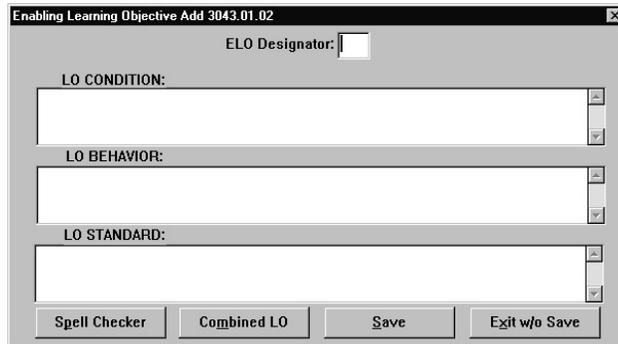

Figure 6-44. Enabling Learning Objective Add
2. Click on **Add ELO**. The Enabling Learning Objective Add dialog box (Figure 6-44) opens.